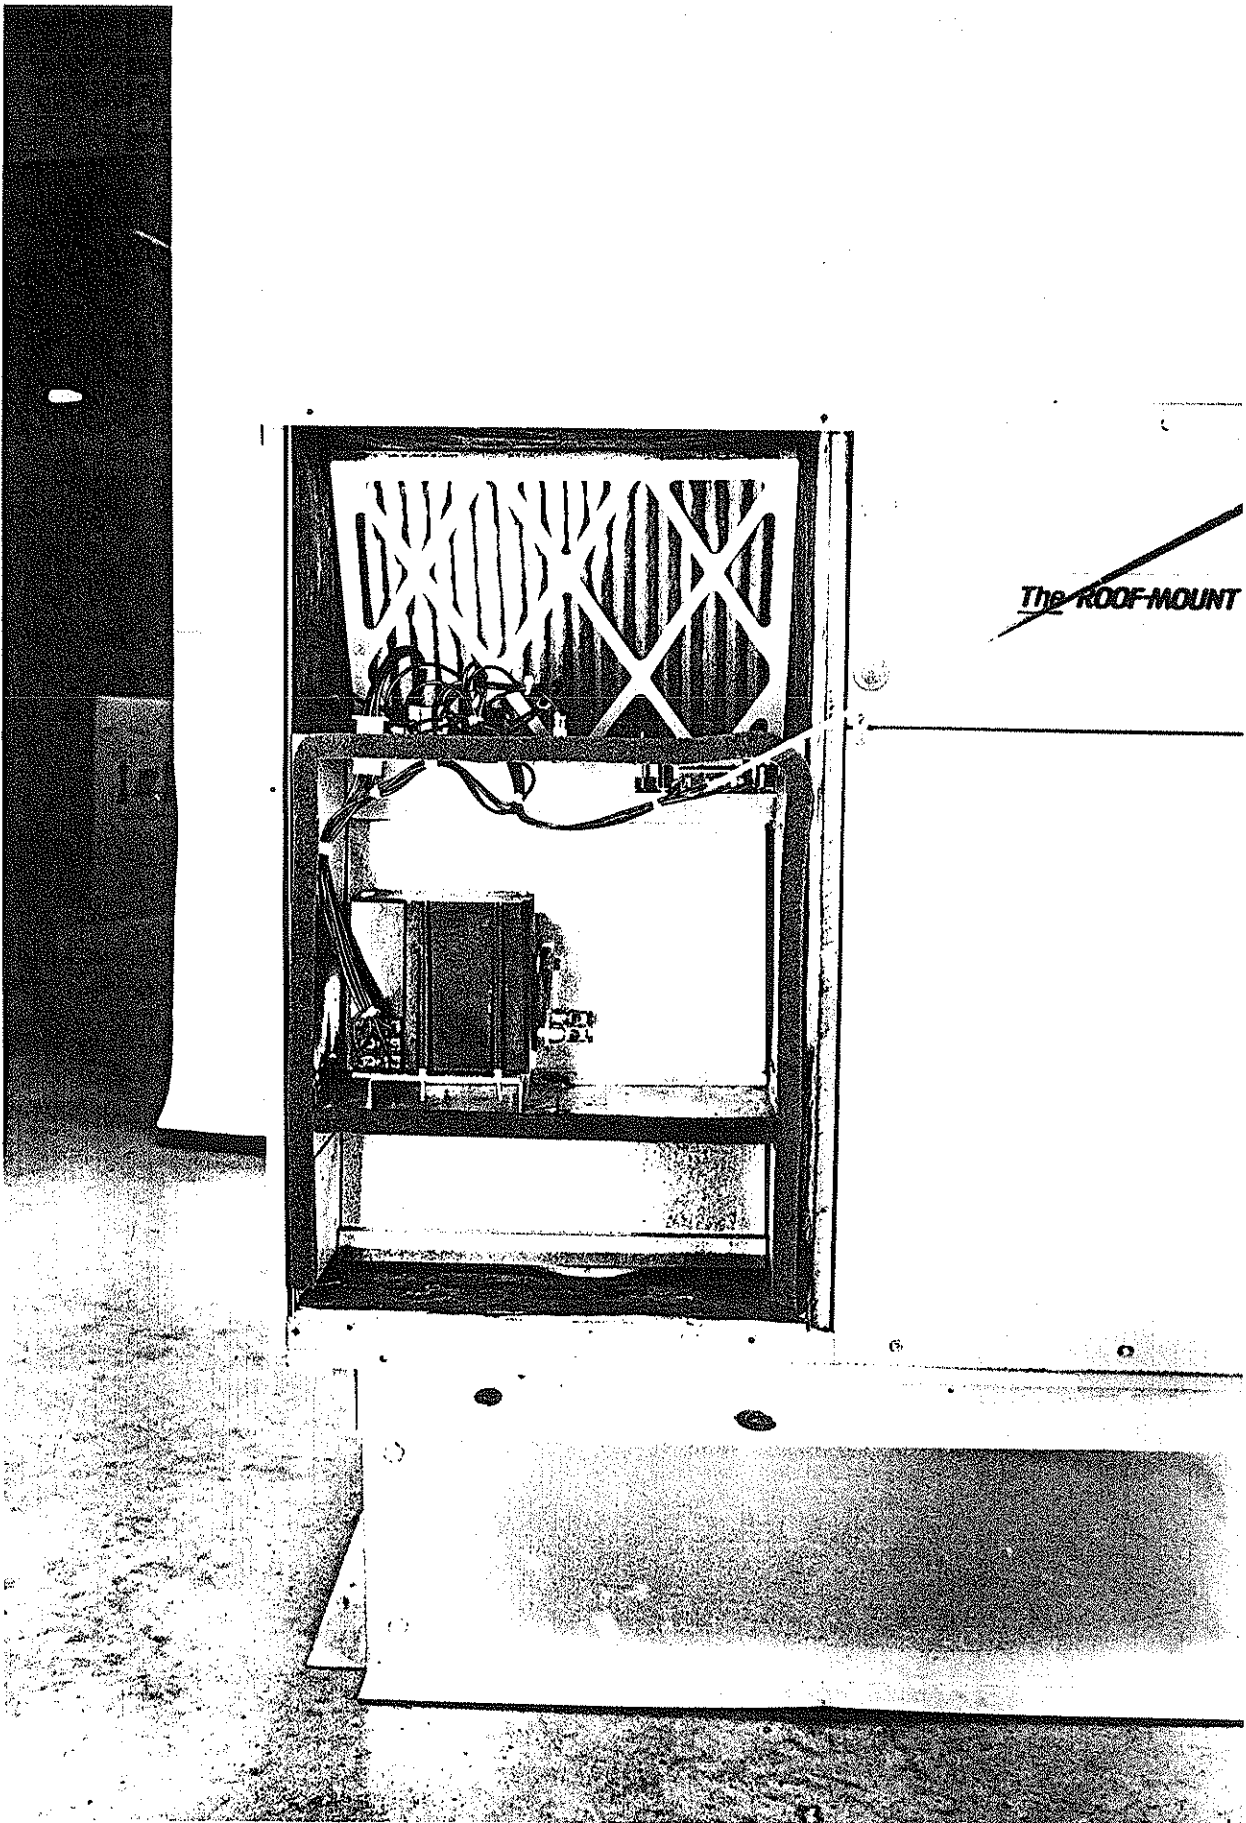

Figure 9.
- g. Switch the thermostat fan control to automatic and position the heat cool switch to cool. Adjust the thermostat temperature to engage the first stage of cooling only (Y). This will cause the dampers to modulate to achieve the previously set mixed air temperature provided outside air enthalpy is sufficiently low. If enthalpy is too high for economizing, low enthalpy can be simulated by temporarily removing and jumping leads on terminal 2 and 3 of enthalpy control together. This will also cause the economizer damper to modulate away from minimum position (be sure to properly reconnect leads at end of checkout procedure).
12. Gasket outside/return air damper assembly with adhesive backed gasketing provided in hardware package on surfaces as shown in Figure 9.